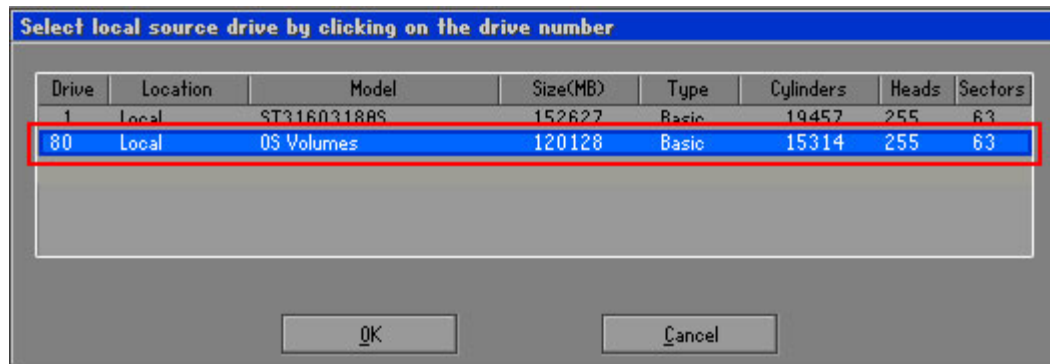

Figure A-11: Select a Local Source Drive
Step 5: Select the local source drive as shown in Figure A-11. Then click OK.